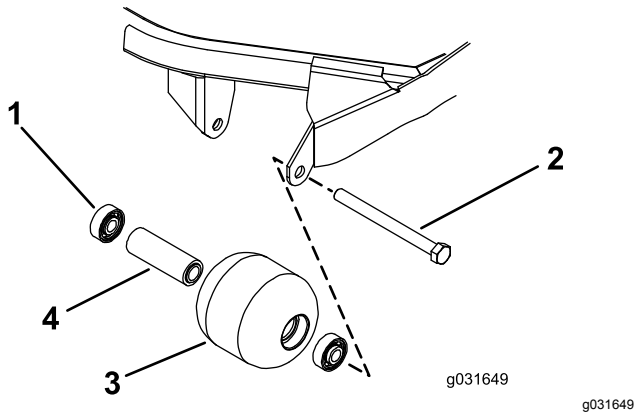

Figure 75
1. Remove the roller-mounting bolt (Figure 75).
1. Pressing on the outer race only or equally on the inner and outer race, press the first bearing into the roller housing (Figure 75).
2. Insert the spacer (Figure 75).
3. Pressing on outer race only or equally on the inner and outer race, press the second bearing into the roller housing until it contacts the spacer (Figure 75).
4. Inspect the roller housing, bearings, and bearing spacer for damage (Figure 75).